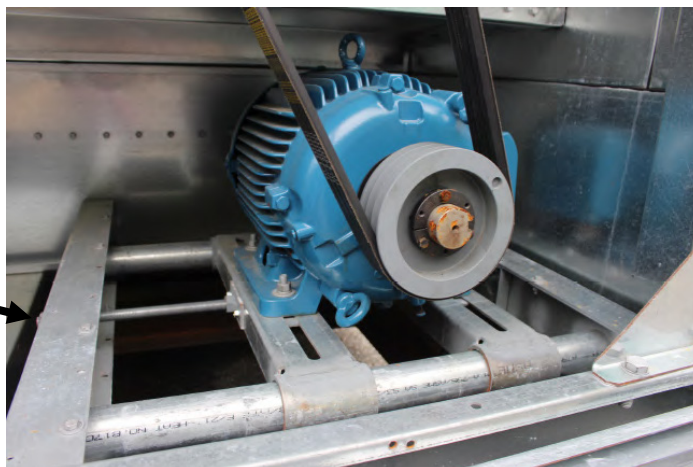

Figure 9. Motor Adjusting Screw
- Using a wrench or impact gun, turn the motor base adjusting screw (**Figure 9**) clockwise to tension the belt or counterclockwise to relieve belt tension. During adjustment of the belt tension, rotate the drives several times by hand to evenly distribute the tension throughout the belt.
Coat the motor base slides and adjusting screws (refer to **Figure 9**) prior to start-up, every three months while in operation, and following shutdown. Use good quality, corrosion inhibiting grease such as one of those recommended for lubricating the fan shaft bearings in **Table 5**.